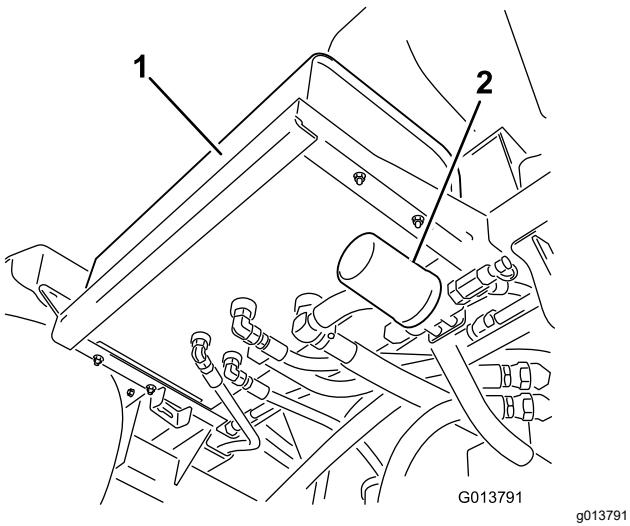
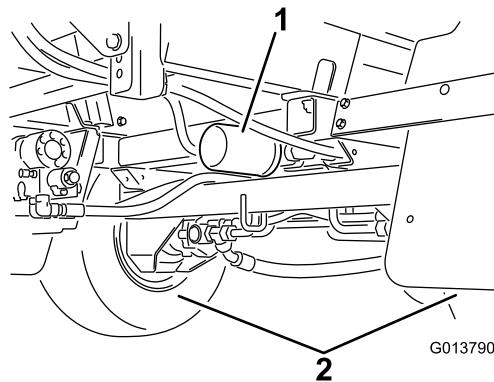

Figure 99
Figure 100
2. Locate the 2 hydraulic filters on the machine (Figure 99 and Figure 100).